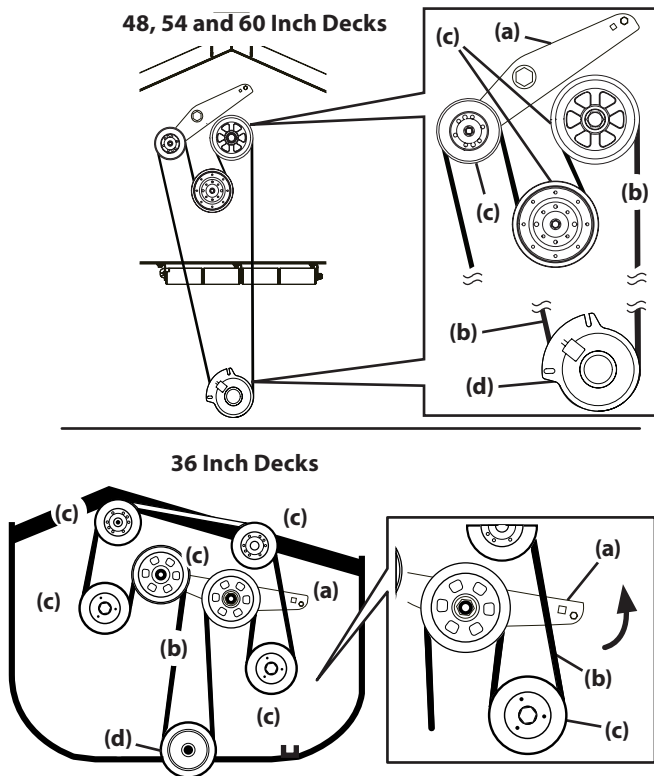

Figure 28
3. Using a 1/2" (12.7 mm) drive in the idler pulley bracket (a), turn the wrench towards the front of the mower and slide the PTO belt (b) off the deck pulleys (c) and the PTO clutch (d) (Figure 28).